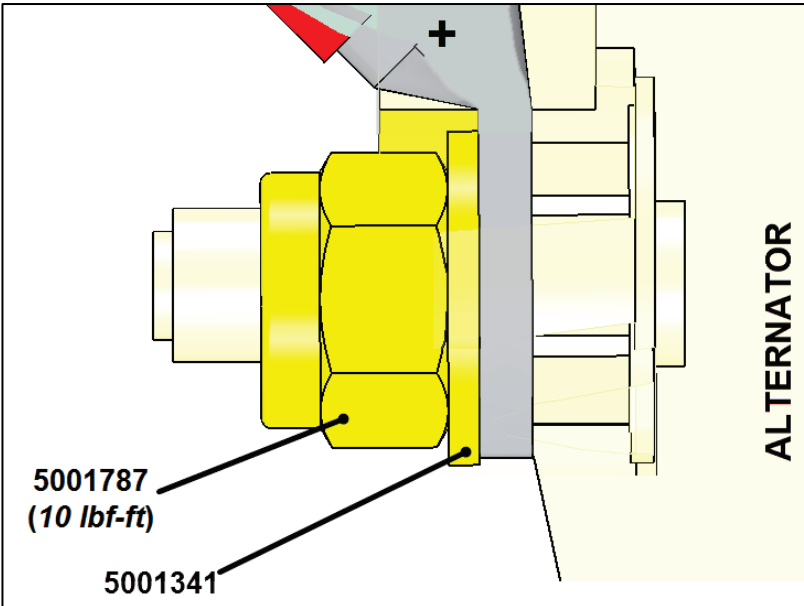

Figure 4
6. Apply prescribed torque. (Fig. 4)